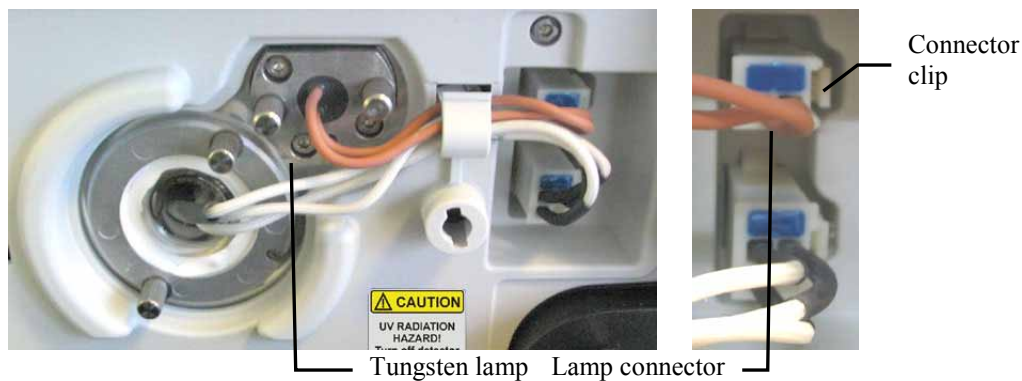

Fig. 32: Tungsten lamp connector
6. Reconnect the lamp connector (→ Fig. 32).